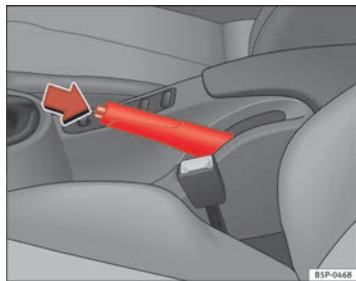

Fig. 147 Handbrake between the front seats
- Pull the handbrake lever up firmly ⇒ **fig. 147**.
- Pull the lever up slightly and press the release knob in the direction of the arrow ⇒ **fig. 147** and guide the handbrake lever down fully ⇒ **⚠**.